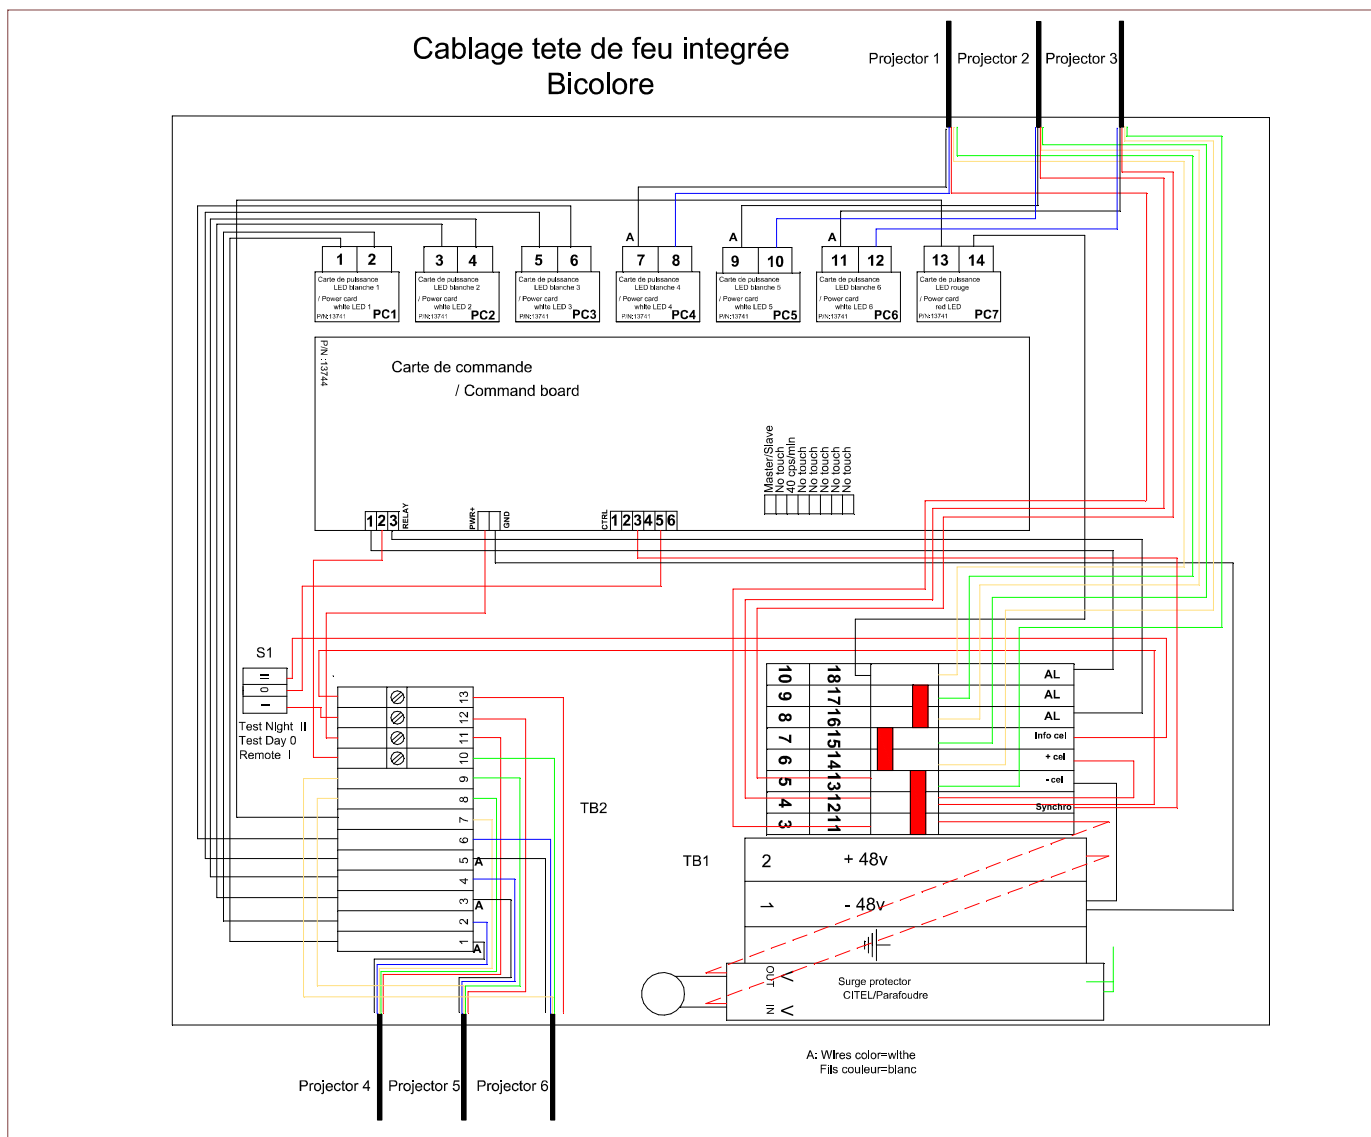

Figure 2-1. INTERNAL WIRING DIAGRAM OF flash-head P/N113792IRU
2.2.2 Wiring of the flash-head (figure 2-1)